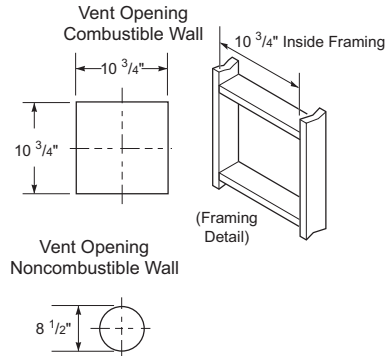
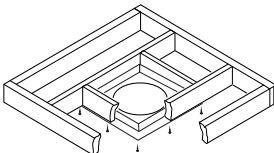

Figure 18 - Vent Opening Requirements
Figure 26 - Installing Firestop
3. Attach vent pipe assembly to fireplace using twist lock connections for rigid pipe or clamp method for flex pipe. Set fireplace in front of its permanent location to insure minimum clearances. Mark wall for a 10 ³/₄" square hole (for noncombustible material such as masonry block or concrete, a 8 ¹/₂" diameter hole is acceptable). See Figure 18. The center of hole should line up with center line of rigid vent pipe. Cut a 10 ³/₄" x 10 ³/₄" square hole through combustible exterior wall (8 ¹/₂" diameter hole if non-combustible). Frame as necessary.
1. Cut a 12 1/2" square hole in the ceiling using locating hole as a center point. Opening should be framed to 12 1/2" x 12 1/2" inside dimensions, as shown in Figure 18 on page 13, using framing lumber the same size as ceiling joists. If area above ceiling is an insulated ceiling or an attic, nail firestop from top side. This prevents loose insulation from falling into required clearance space. If area above ceiling is a living space, install firestop below framed hole. The firestop should be installed with no less than three nails per side (see Figure 26).
3. Cut a hole in roof using locating hole as a center point. (Cover any exposed open vent pipes before cutting hole in roof.) The 12 1/2" x 12 1/2" hole must be measured on the horizontal, actual length may be larger depending on pitch of roof. There must be a 1" clearance from vent pipe to combustible materials. Frame opening as shown in Figure 18 on page 14.